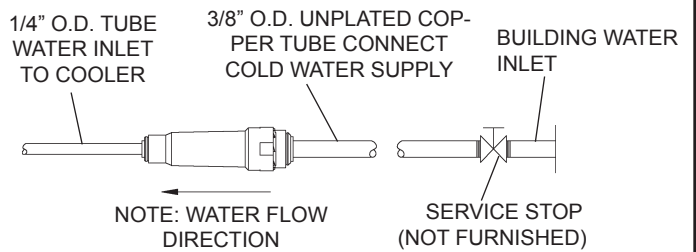

Figure 11 - Water Supply Connections
1. **Make** water supply connections (Fig. 11). Install a shut-off valve and union connection to building water supply (valve and union not provided). Turn on water supply and flush the line thoroughly.